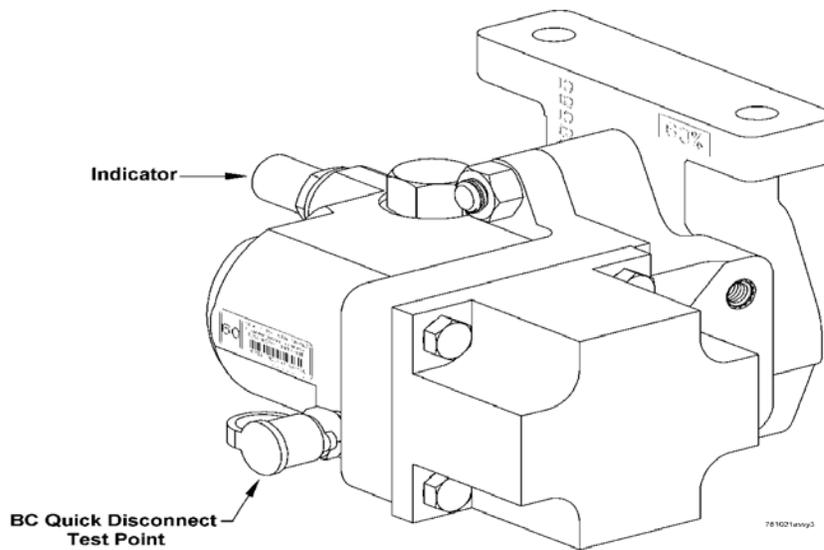

Figure 37: ELRP Proportional Valve Portion
**5.14 ELRP - LOAD PROPORTIONAL VALVE, Fig 37**